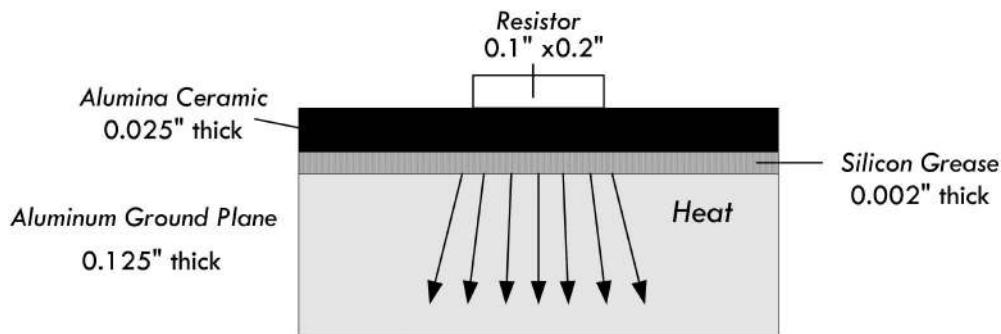

FIGURE 2.25
*Example:* Figure 2.25 shows a thin-film resistor in an integrated circuit. How hot will it get with 2 W dissipated over its  $0.1 \times 0.2$ -in surface ( $100 \text{ W/in}^2$ )? Assume the ground plane is at  $80^\circ\text{C}$ .